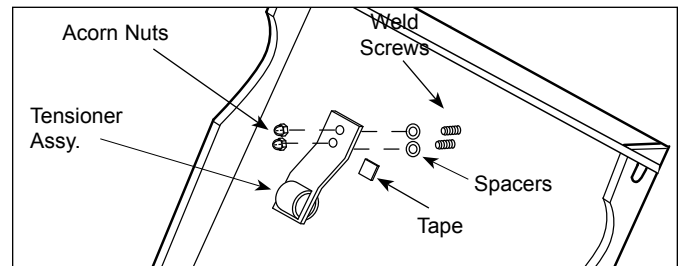

Figure 14. Replacing Roller Tensioner Assy.
Align the ends of the Belt Wrap properly (Figure 14) or the Belt Wrap may be damaged. Position the Belt Wrap between the upper and lower Support Rods or damage to the unit may occur.
1. Remove the Acorn Nuts and old Roller Tensioner Assembly (Figure 14).